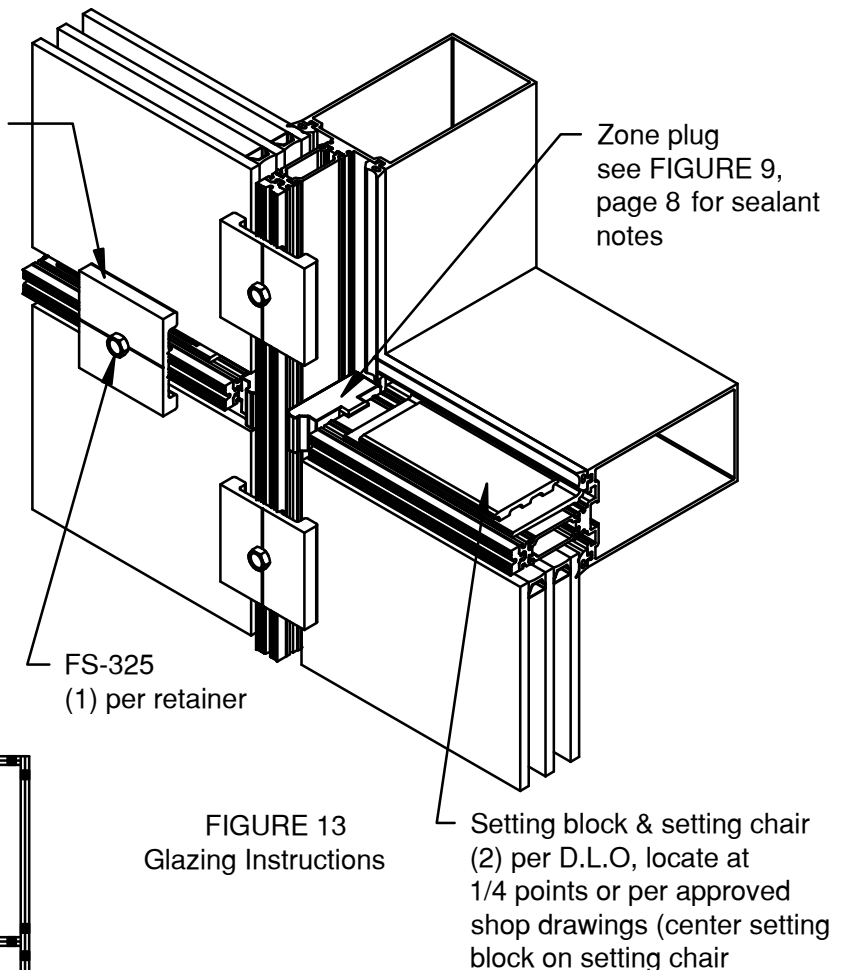

FIGURE 13
- WW-333 temporary glazing retainers must be applied at each glass edge 3" from the corner (minimum of 8 per lite). Glass edges greater than 4' in length but less than 8' require an additional retainer at the glass mid-span. SEE FIGURES 13 & 14.